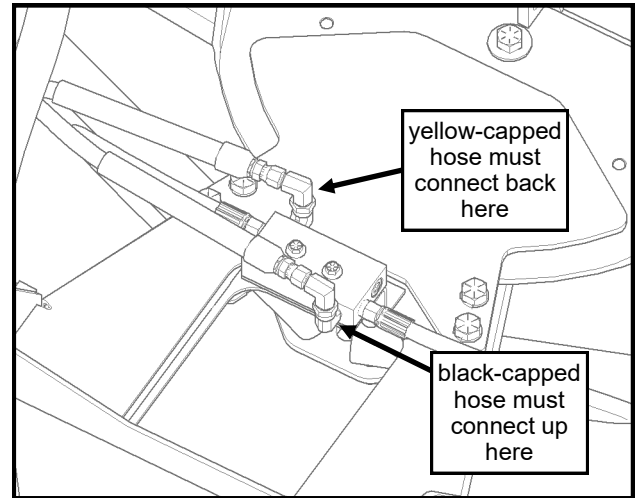

Fig. 6.2—Quick-Disconnect Hoses
- 6.2 Study fig. 6.2. Hint: to help determine that you have the correct hose, hold the black-capped hose steady while moving the yellow-capped hose back and forth to confirm hoses. Reference: both hoses will be coming in from the left side of fig. 6.2. Connect the yellow-capped hose exactly where shown. Connect the black-capped hose exactly where shown.